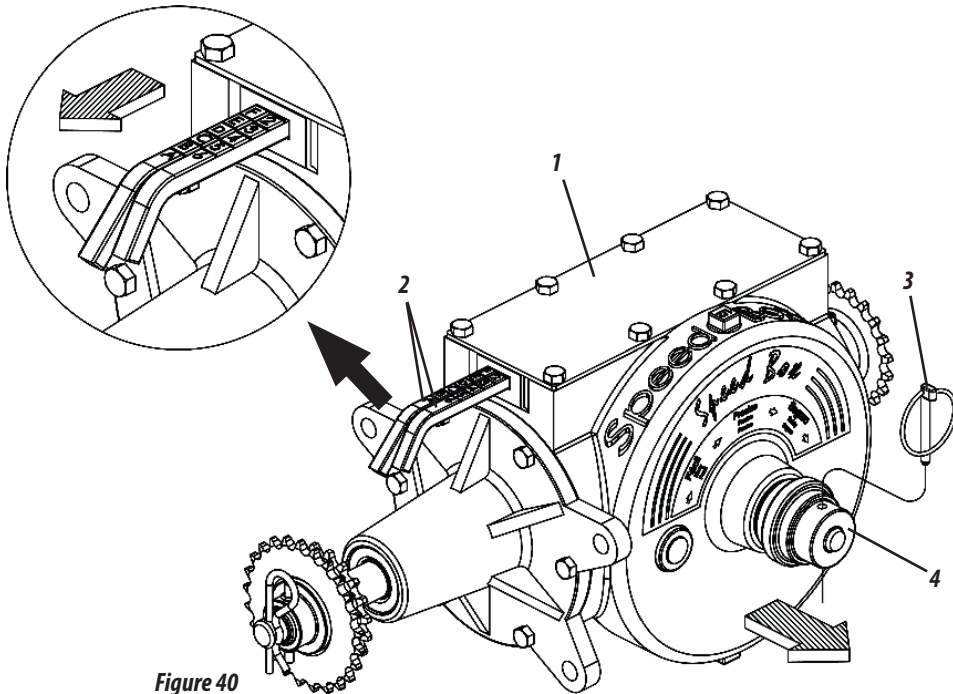

Figure 40
- The seed drills are equipped with the Speed Box system (1), which triggers the distribution system with simple settings, ensuring quick exchange of rotations. To calibrate the seeds, proceed as follows:
- 10 - Select the desired amount of seeds in the tables and check the corresponding combination in the levers (2). Example: Position F2 in the table indicates that the lever with letters must be in position "F" and the lever with numbers must be in position "2", as shown in Figure 40.